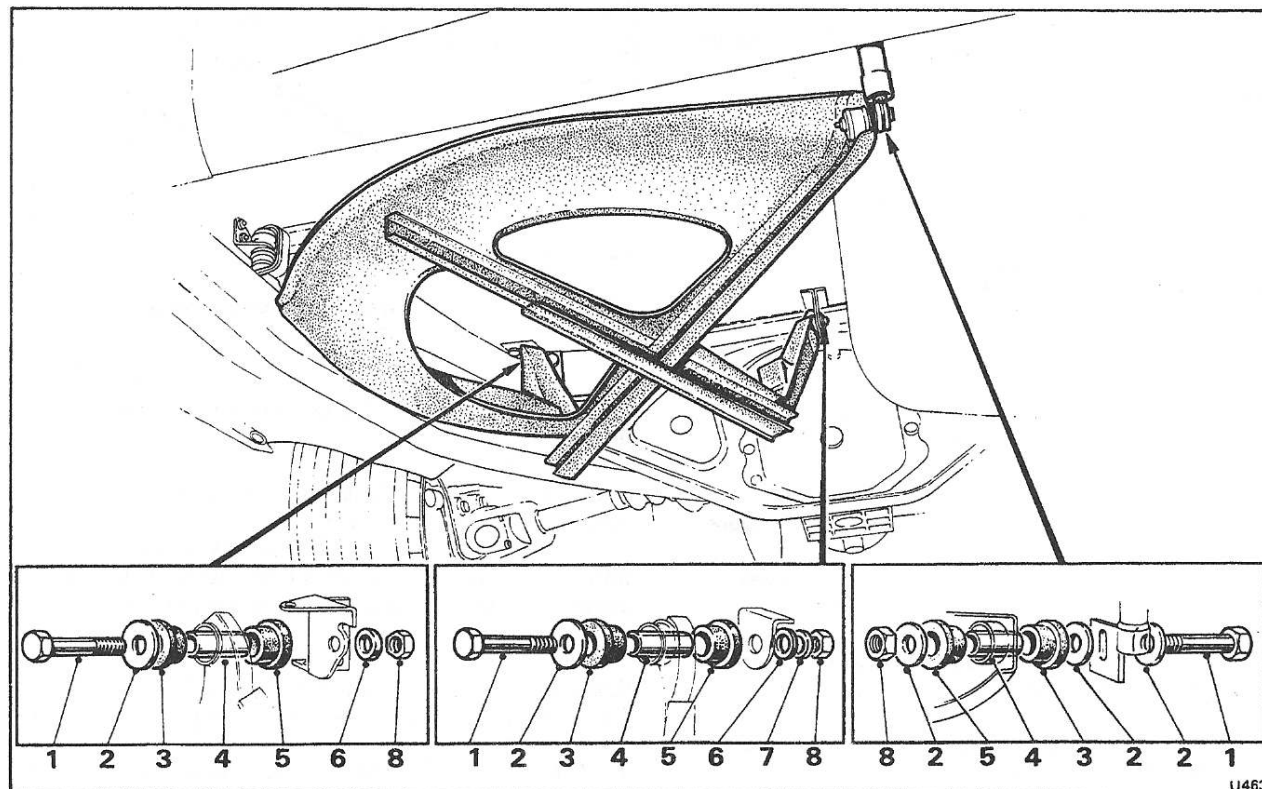

Fig. S127 Spare wheel carrier
Spare wheel carrier — To remove (see Fig. S127)
Spare wheel carrier — To fit (see Fig. S127)
3. Ensure that the rubber bushes, distance tubes and washers are fitted correctly at the three pivot points (see Fig. S127, insets).